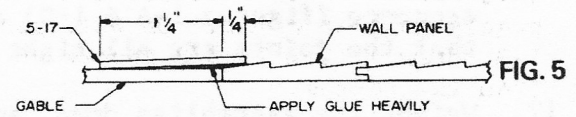

FIG. 5
11. Using the first line as a guide, glue a row of plain shakes (part no. 5-17) over the joints between the gables and the wall panels, as shown in figure 5. Apply the glue heavily under the shakes. Allow it to dry before proceeding.